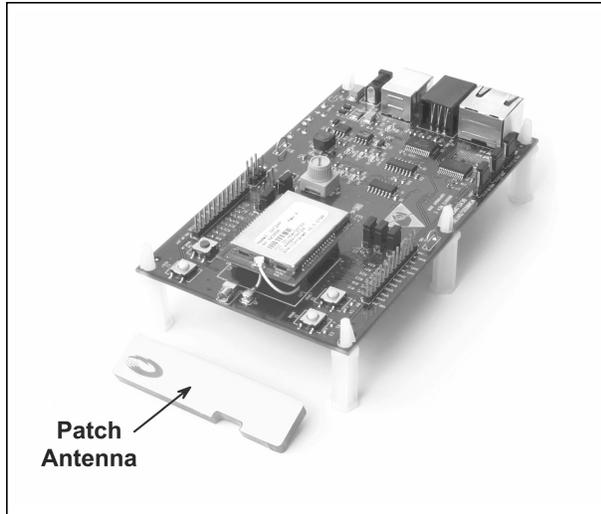
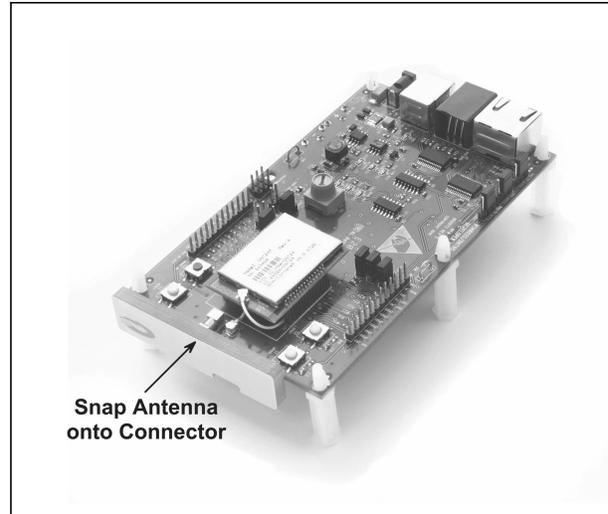

Figure 1
Figure 2
1. Figure 1 shows a DNT24P radio installed on an interface board, and a patch antenna. Observe ESD precautions when handling the kit circuit boards. Install a patch antenna on each interface board by pressing the antenna into the interface board RF connector with moderate pressure until the antenna snaps onto the connector, as shown in Figure 2. Note that no external antenna is required when using the DNT24PA radios supplied in the DNT24A Kits.